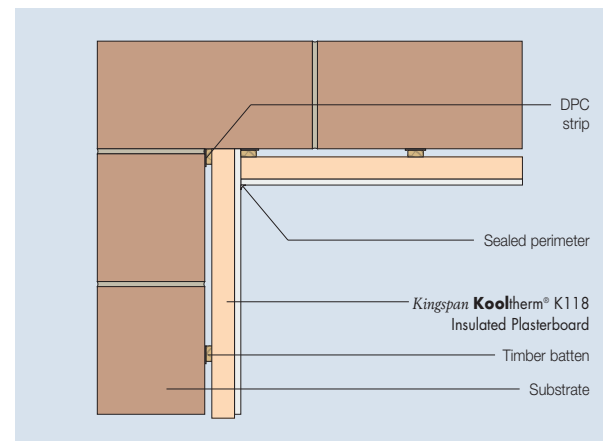

Figure 10 – Internal Corner Detail
- For external corners (including reveals), the lining should run past the corner and the insulating backing of **Kingspan Kooltherm® K118 Insulated Plasterboard** should be cut back to create a junction (see Figures 10 & 12). Sheets should be cut and rebated to allow a plasterboard / plasterboard joint at the angle (see Figures 10 & 11).
- Ensure sheets are lightly butted and air gaps minimised to reduce the risk of cold bridging (see Figures 10 & 12). Any air gaps should be sealed with flexible sealant or equivalent, or a combination of flexible polyurethane foam and flexible sealant or equivalent.